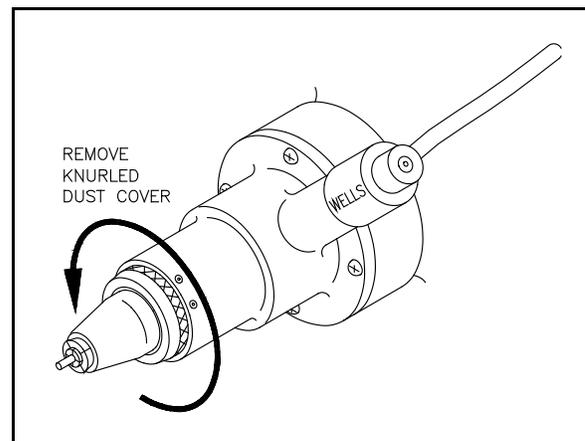

Figure 10.
The non-rotating collet shield covers the collet to provide a steady rest for more comfortable operation of your WELLS Super Quick Chuck. It also helps protect rubber gloves. Removal is easy for cleaning around the collet. Q103 COLLET SHIELD LH (left hand) fits model Q011 WELLS SUPER QUICK CHUCK (left hand with knurled dust cover **ONLY**) . See figure 10. If there is no knurled dust cover, the collet shield cannot be installed.
- 6.10.1 Remove the knurled dust cover by rotating **COUNTERCLOCKWISE**. See Figure 10. It has **right-hand threads**.
(fits Quick Chucks with knurled dust cover ONLY. See Figure 10 on page 9.)